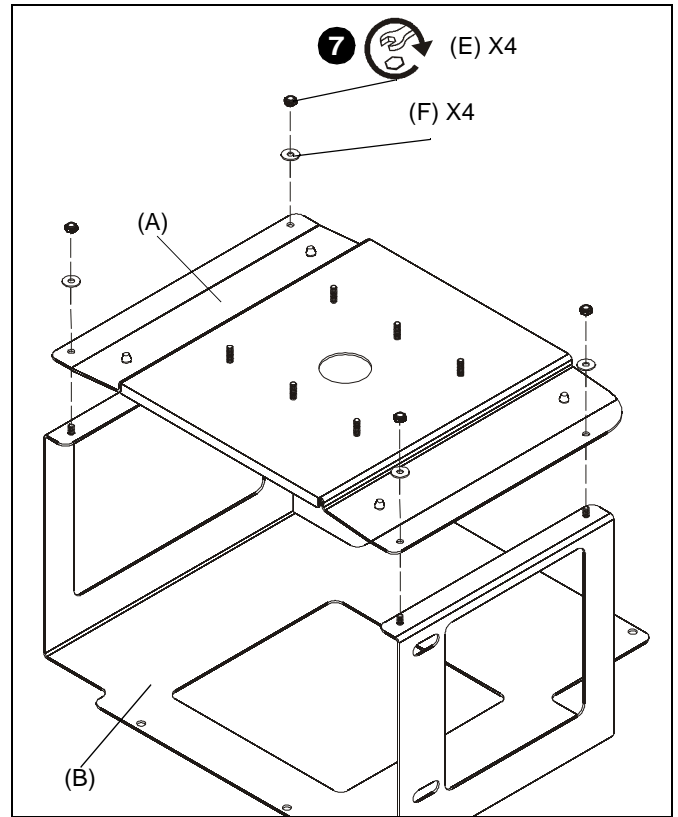

Figure 2
7. Align four outer holes in hanging bracket (A) with four studs in the cradle bracket (B) and secure bracket using four Nylock nuts (E) and four #10 washers (F). (See Figure 2)